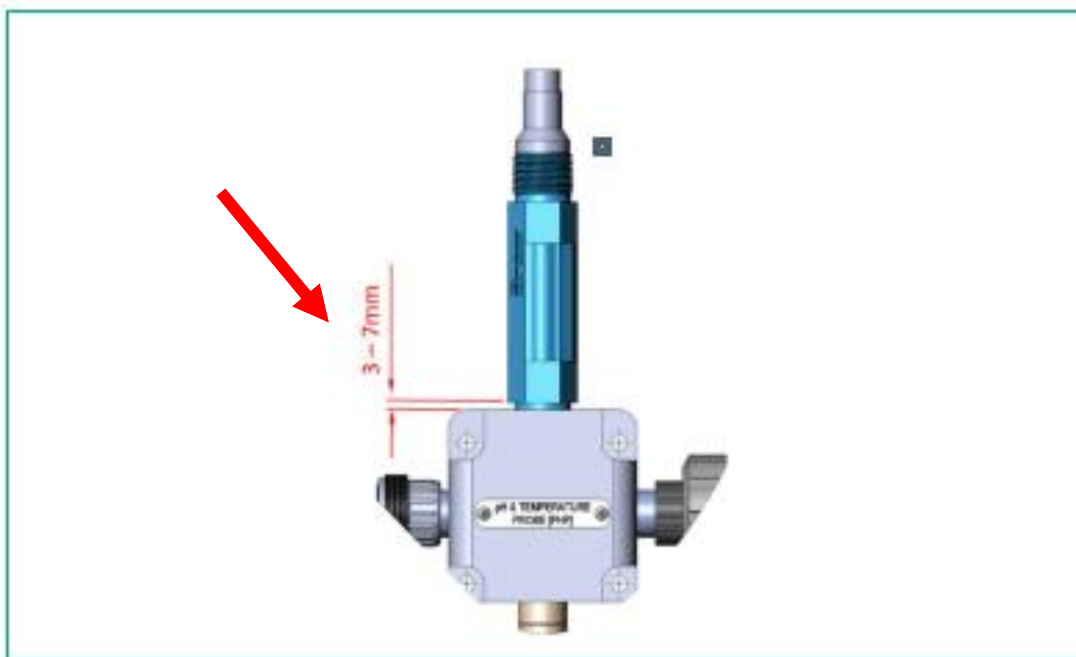

Figure 17: Tightening the pH sensor into the flow chamber.
4. Screw the pH sensor into its flow chamber. Important: the probe must not be over-tightened, use a 26mm A/F spanner to tighten to 7 – 3mm limit from the hex shoulder (see Figure 17 and caution statement).